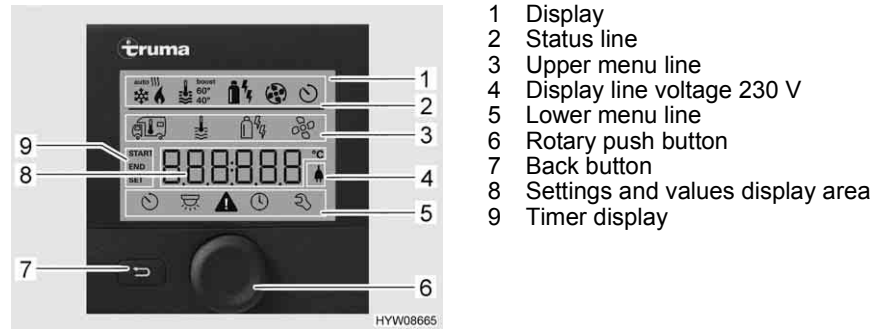
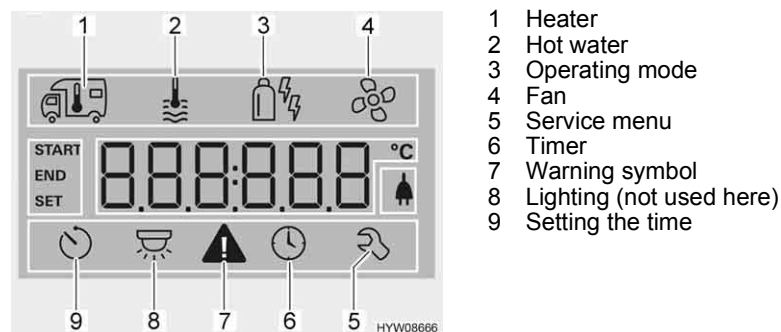

Fig. 165 Operating unit with displays
Fig. 166 Display
- Status line (Fig. 165,2)
- Upper menu line (Fig. 165,3)
- Display area (Fig. 165,8)
- Lower menu line (Fig. 165,5)
- Press and hold the rotary push button (Fig. 165,6) for approx. 3 seconds. Both menu lines (Fig. 165,3 and Fig. 165,5) are displayed. The first symbol flashes.
- Turn rotary push button (Fig. 165,6) until the required menu symbol flashes.
- Press rotary push button to save the value set. If you do not wish to change the value originally set: Press back button (Fig. 165,7).
- Turn rotary push button (Fig. 165,6) until the heater menu symbol (Fig. 166,1) flashes.
- Press rotary push button to save the value set. The symbol in the status line (Fig. 165,2) flashes until the room temperature set is reached. If you do not wish to change the value originally set: Press back button (Fig. 165,7).
- Turn rotary push button (Fig. 165,6) until the menu symbol operating mode (Fig. 166,3) flashes.
- Press the rotary push button to save the set operating mode. To revert to the original setting: Press back button (Fig. 165,7).
- Turn rotary push button (Fig. 165,6) until the fan menu symbol (Fig. 166,4) flashes.
- Turn rotary push button (Fig. 165,6) until the timer menu symbol (Fig. 166,6) flashes.
- Press rotary push button. The timer is activated. The timer symbol (Fig. 166,6) flashes when the timer is programmed and active.
The warning symbol (Fig. 166,7) flashes in the event of a warning. The heater continues to operate. In the event of only a temporary fault, the warning symbol goes out automatically.